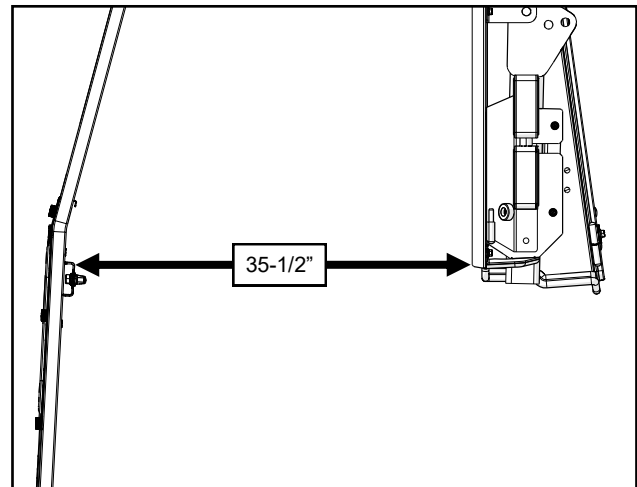

Fig. 12.2 (Align A-Pillar and Rear Legs)
- 12.2** Measure the distance from the striker bracket to the front edge of the rear legs as shown in figure 12.2. Adjust the A-pillars, rear legs, and ROPS brackets to get as close to 35-1/2" as possible.